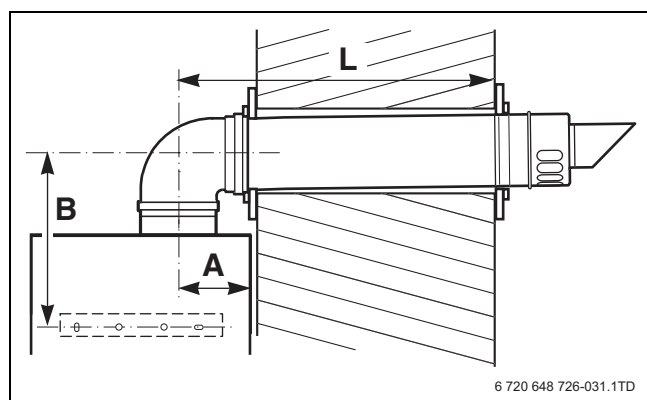

Fig. 33 Flue length - rear
- Measure the flue length L. Refer to figures 33 and 34.